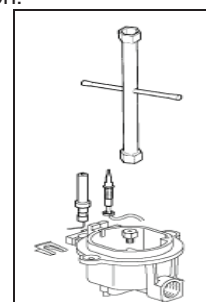

Fig.12
- 4) Unscrew the nozzles using a 7 mm spanner, and replace them (Fig.12) with those needed for the new type of gas according to what is indicated in the Energy Consumption Table.